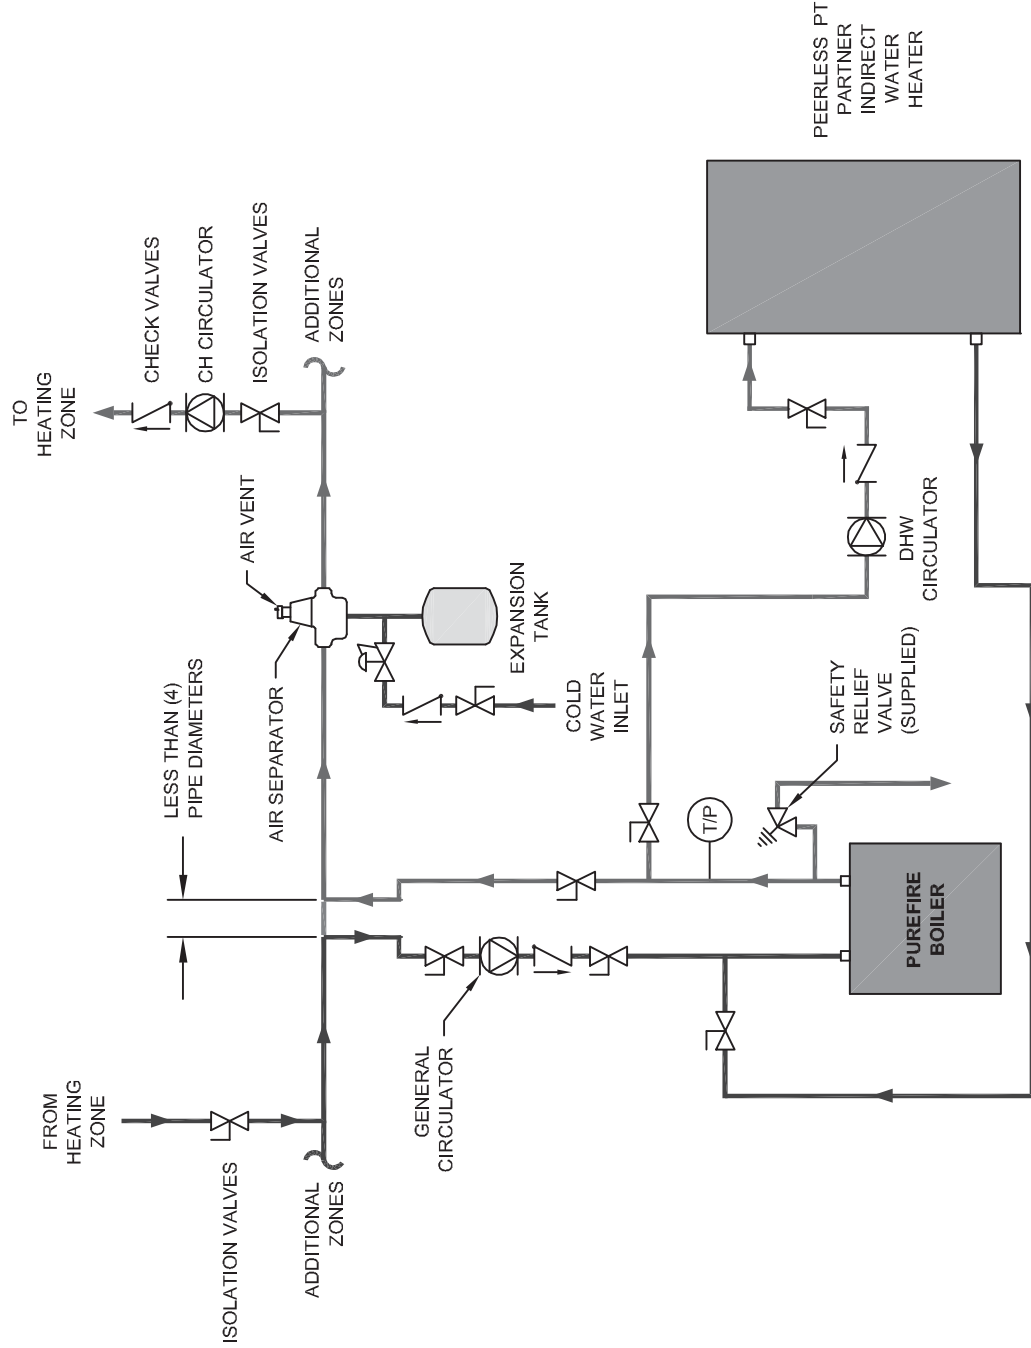

Figure 4.6: Alternate Piping – One Boiler, Primary/Secondary with a Peerless® Partner® (Zone Circulators).
2. For a single boiler with one heating zone and one DHW zone which utilizes an indirect water heater like the Peerless[®] Partner[®], pipe the boiler as shown in Figure 4.6. In systems like this, the DHW circulator must be sized to provide the minimum flow rate through the boiler.